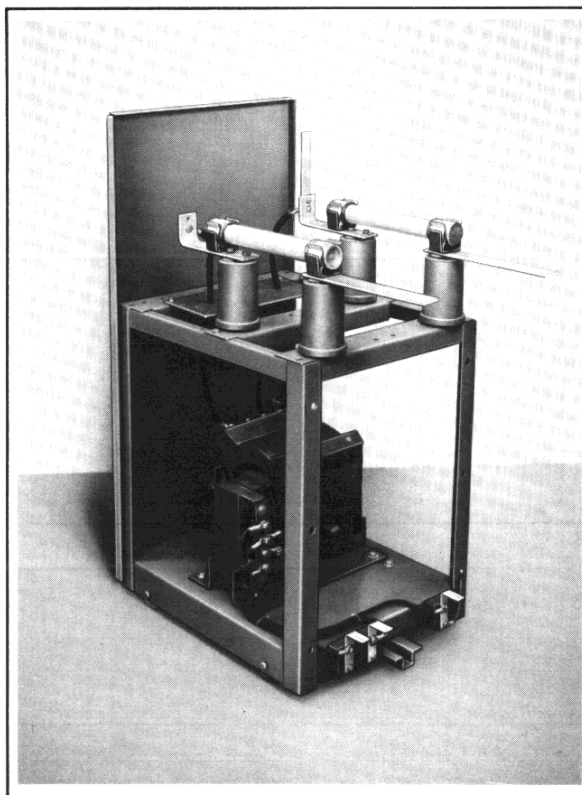

Figure 1-12
1.2.8 Control Power Transformers (Figure 1-12)